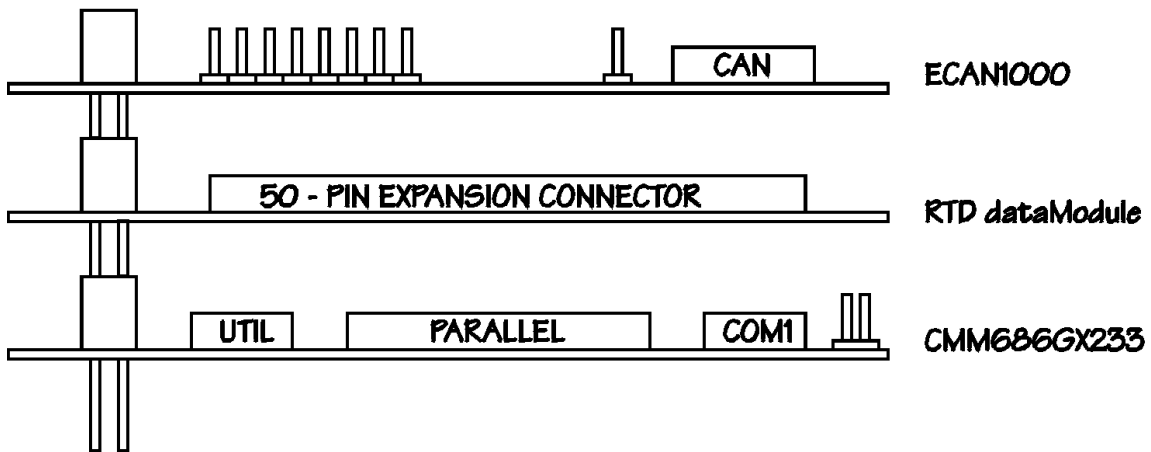

Fig. 3-1: ECAN1000HR integrated in a PC/104 RTD cpuModule stack
- Fig. 3-1: ECAN1000HR integrated with a PC/104 cpuModule stack